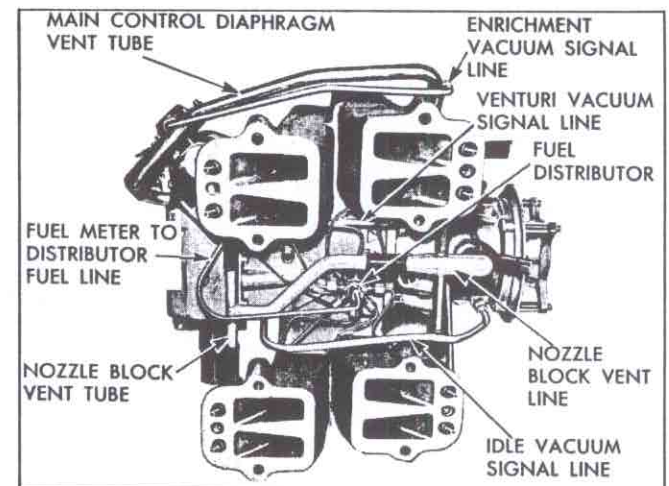

Fig. 122—Fuel and Nozzle Vent Lines
3. Remove the fuel meter-to-distributor fuel line, leaving the brass adapter fitting installed in the fuel meter casting (fig. 122). This fitting should not be removed from the fuel meter unless replacement is required. Exercise caution in removing this line at fuel meter end. Tube extends through adapter fitting into casting about 1 1/4".